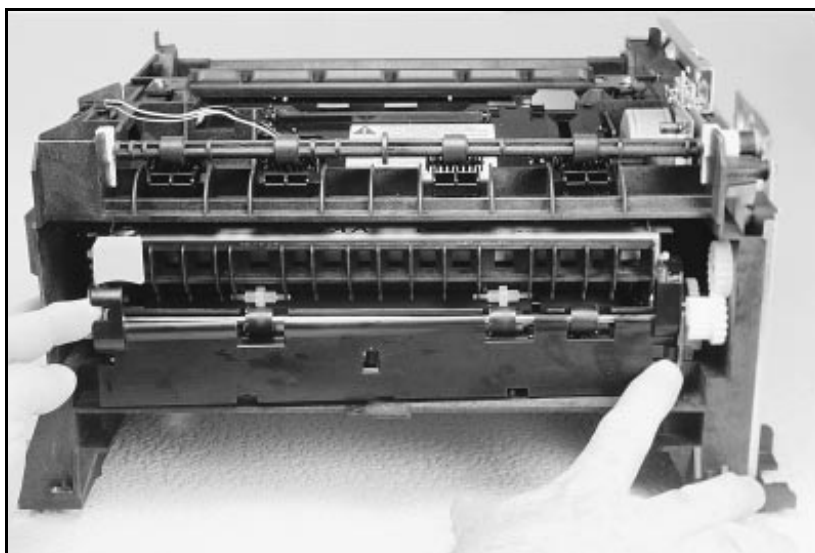

Figure 27 Removing the fuser cover.
2. Locate the black plastic fuser cover at the back of the printer. Press the release tab (callout **1** in Figure 27).
Figure 30 explains how to read the light sequences. The initial sequence (Part 1) shows that ERROR 53 can be indicated by two different light sequences, depending on the X value: ROM (x =0) or in RAM (x =1) . Pressing GO and RESET/JOB CANCEL together produces a secondary light pattern, which reveals the Y- and ZZ-values, which complete the error code (Part II) . The binary Y value is read from the top two LEDS; the binary Z value is read from the lower three LEDS. Part III of Figure 27 shows the binary values of the different light combinations.